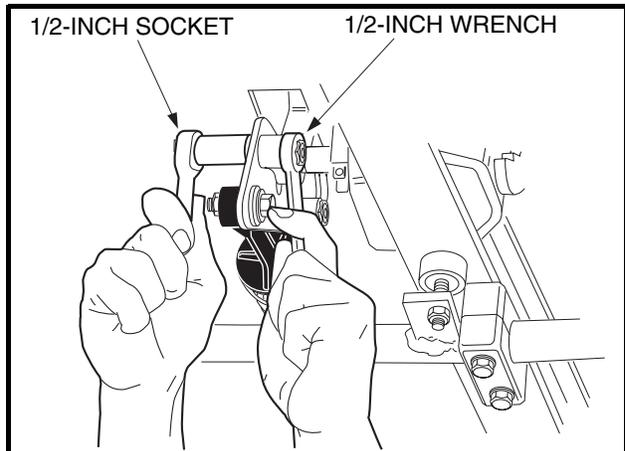
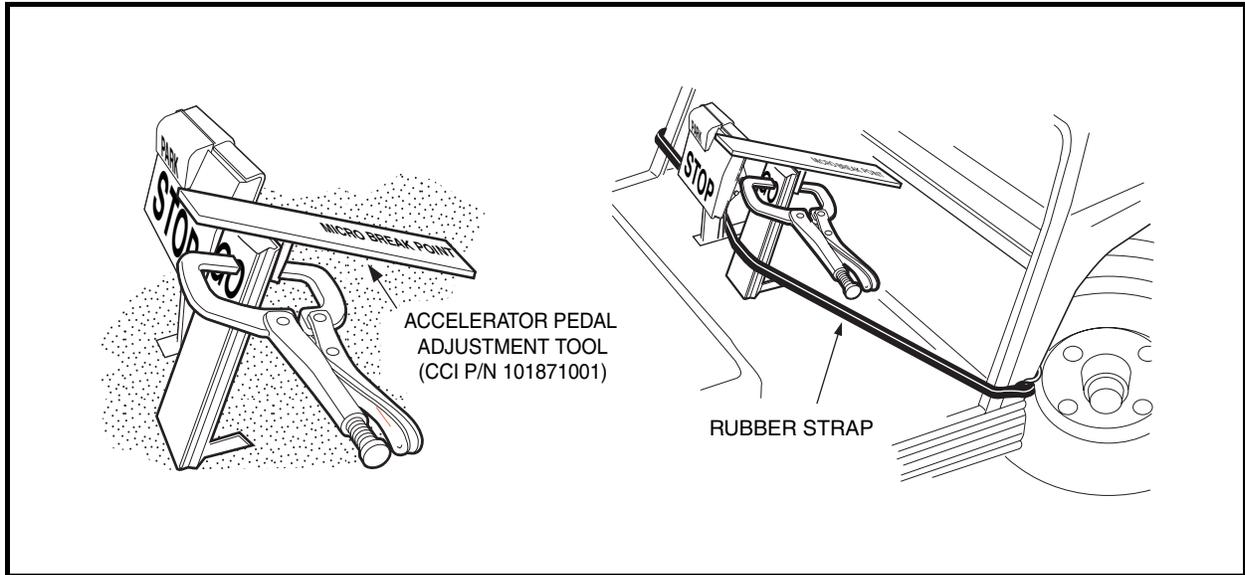

Figure 5-28 Accelerator Pedal Height Adjustment
Figure 5-29 Accelerator Pedal Height Adjustment
- 4.1. Loosen the nut and bolt (Figure 5-28, Page 5-18) securing the accelerator pedal to the pivot plate. Clamp the accelerator pedal adjustment tool (CCI P/N 101871001) to the accelerator pedal, with the end marked *accelerator pedal height* closest to the floorboard. Press the accelerator pedal until the end of the tool rests against the floorboard; pedal height should be 5-5/8 inches (14.3 cm). Use a rubber strap to hold pedal in position against the floorboard and then tighten nut to 26 ft-lb (35.3 N·m) (Figure 5-29, Page 5-19).